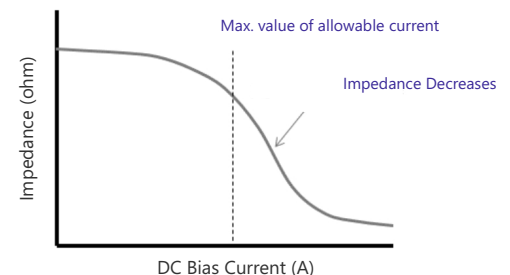

Fig. 7: Effect of DC Bias Current on SMD Ferrite Bead
DC bias will also lower the effective impedance of the device. As the dc bias current increases, the core material begins to saturate, which reduces the impedance of the ferrite bead & other parameters also change significantly. The degree of saturation differs depending on the material used for the core of the component. This drop of the impedance reduces the effectiveness of the ferrite bead and its ability to remove EMI (AC) noise (refer Fig. 7).